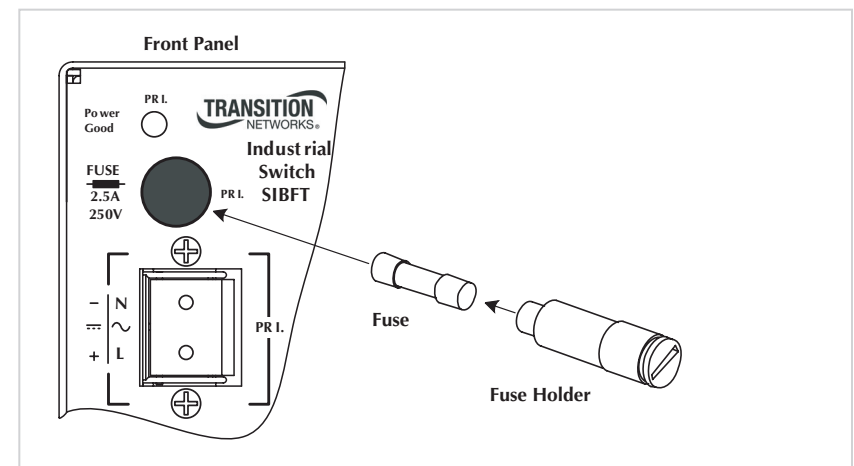

Figure 15: Fuse Replacement
To replace the fuse, view Figure 15, and then do the following:
2. Using a flat-head screwdriver, unscrew (*counter-clockwise*) and remove the fuse holder. See Figure 15.